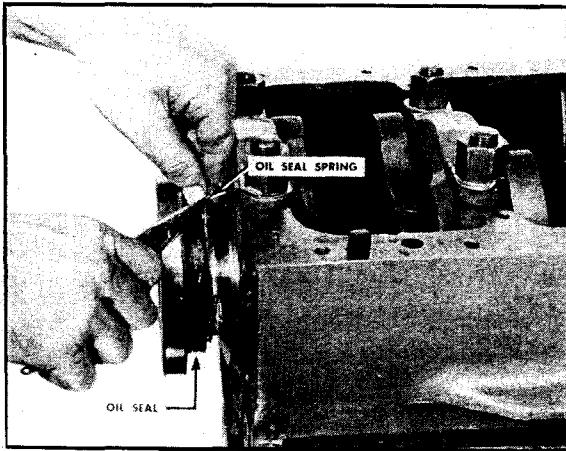

Fig. 12-13. Installing rear cover oil seal spring
2. Remove the spring from the oil seal, and with a pair of needle nose pliers, hook the spring around the crankshaft rear cover journal. Fig. 12-13. Be very careful not to over-stretch the spring as it is installed.